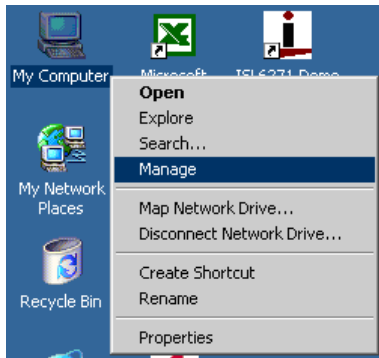

FIGURE 16. SCREEN SHOT OF WHEN RIGHT-CLICKING THE MY COMPUTER ICON ON THE DESKTOP
1. Right click the "My Computer" icon in the desktop window and select "Manage," as shown in Figure 16.